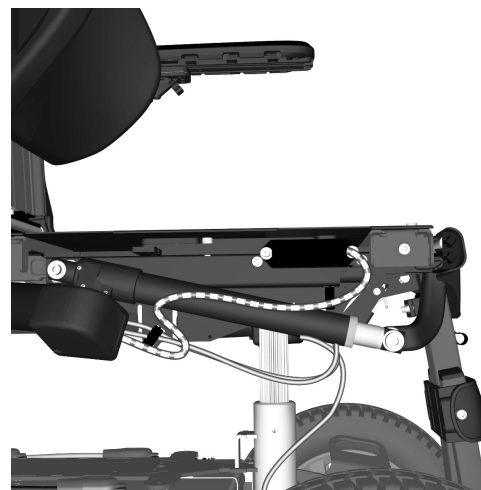

Figure 130. Actuator cabling, applies to both LINAK and REAC.
8. Connect the actuator connector to the same position as noted in step 7. into the junction box on the right-hand side of the seat. Fit the connector by pushing it straight in at any point. See fig. 130.